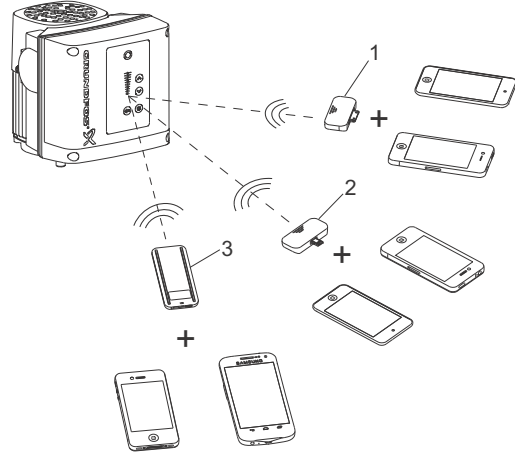

Fig. 13 Grundfos GO Remote communicating with the pump via radio or infrared connection (IR)
The Grundfos GO Remote offers the following mobile interfaces (MI). See fig. 13.